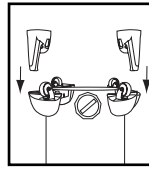

FIGURE 7
11. With tank drain facing you, attach hose holder A to caster foot A, and hose holder B to caster foot B. **FIGURE 7.**